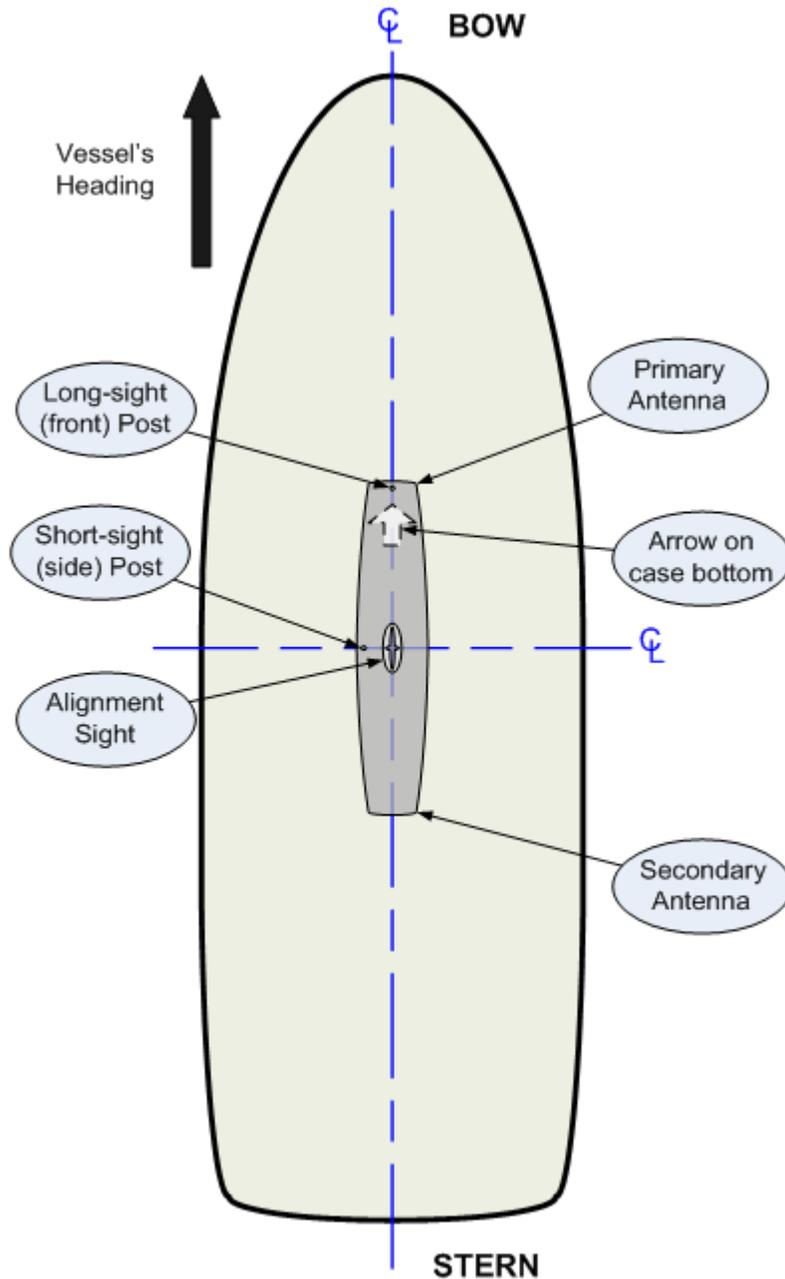
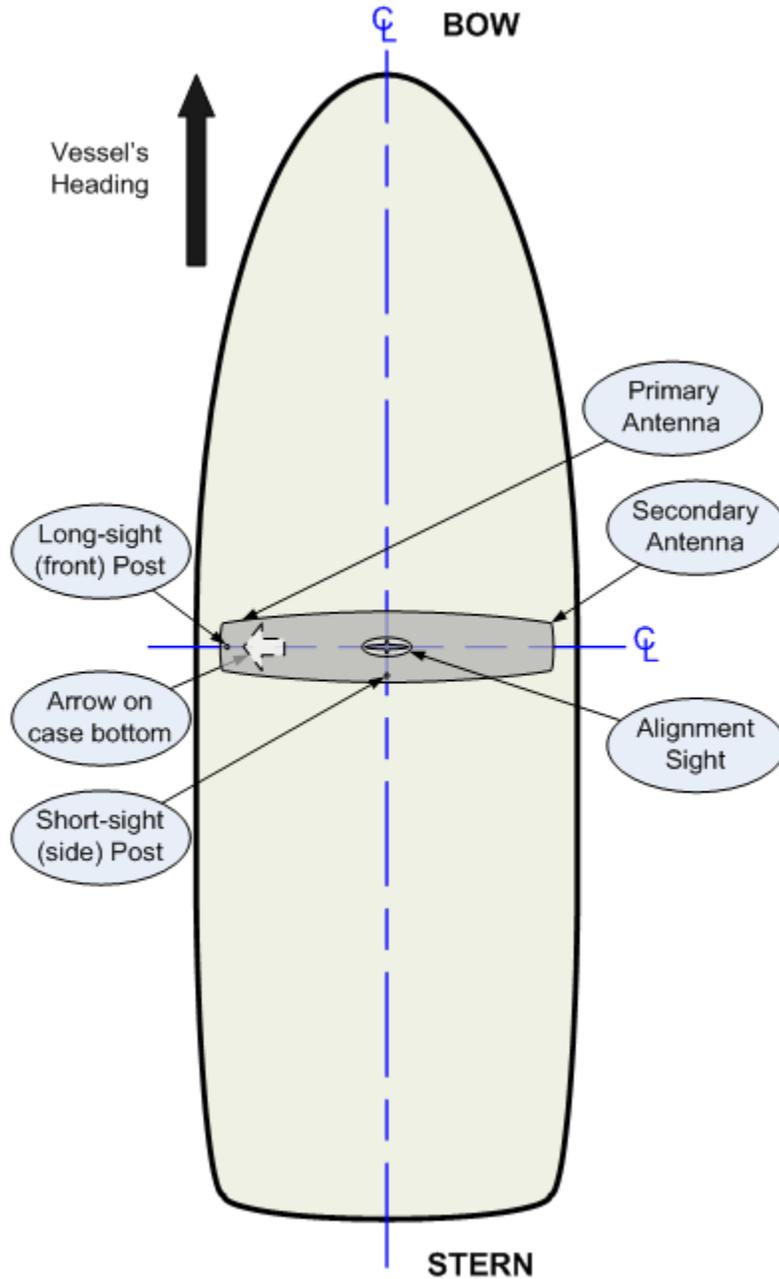
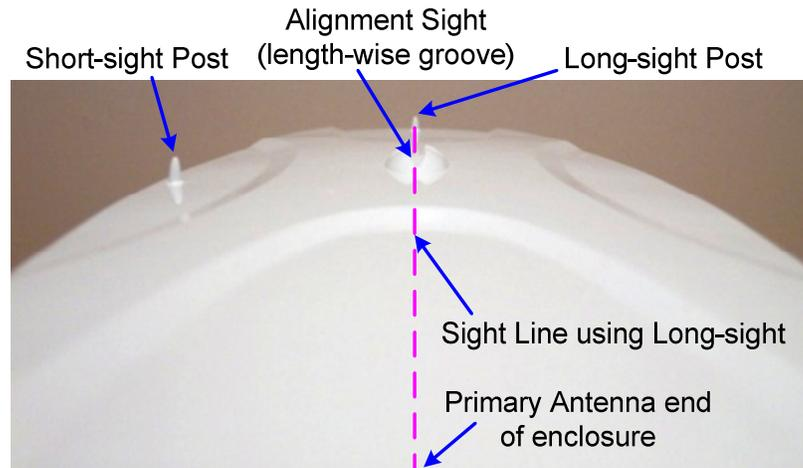

Figure 7 – Heading & Pitch Installation (viewed from above). Heading bias is 0° at this orientation
Figure 8 – Heading & Roll Installation (viewed from above). Heading bias is 90° at this orientation
Figure 13 – Long-sight Alignment
- The G2 computes its position as the geographic location of its internal Primary GNSS antenna; that antenna is in the end of the enclosure opposite the end which has a recessed arrow on the underside & the long-sight alignment post on the top-side (see Figure 8 & Figure 13). Thus, you should mount the G2 so that the Primary antenna's end is at the location on the vessel where you desire the vessel's "reported GNSS position" to be.
The heading from a GPS mounted as in Figure 8 and that from a GPS mounted as in Figure 7 have 90° difference. This can be compensated by the parameter of heading bias. Heading bias value is adjusted through proprietary sentence. At factory default, G2
- ♦ centre the other end's post (the Long-sight shown in Figure 8, Figure 7 and Figure 13) in the length-wise groove in the Alignment sight